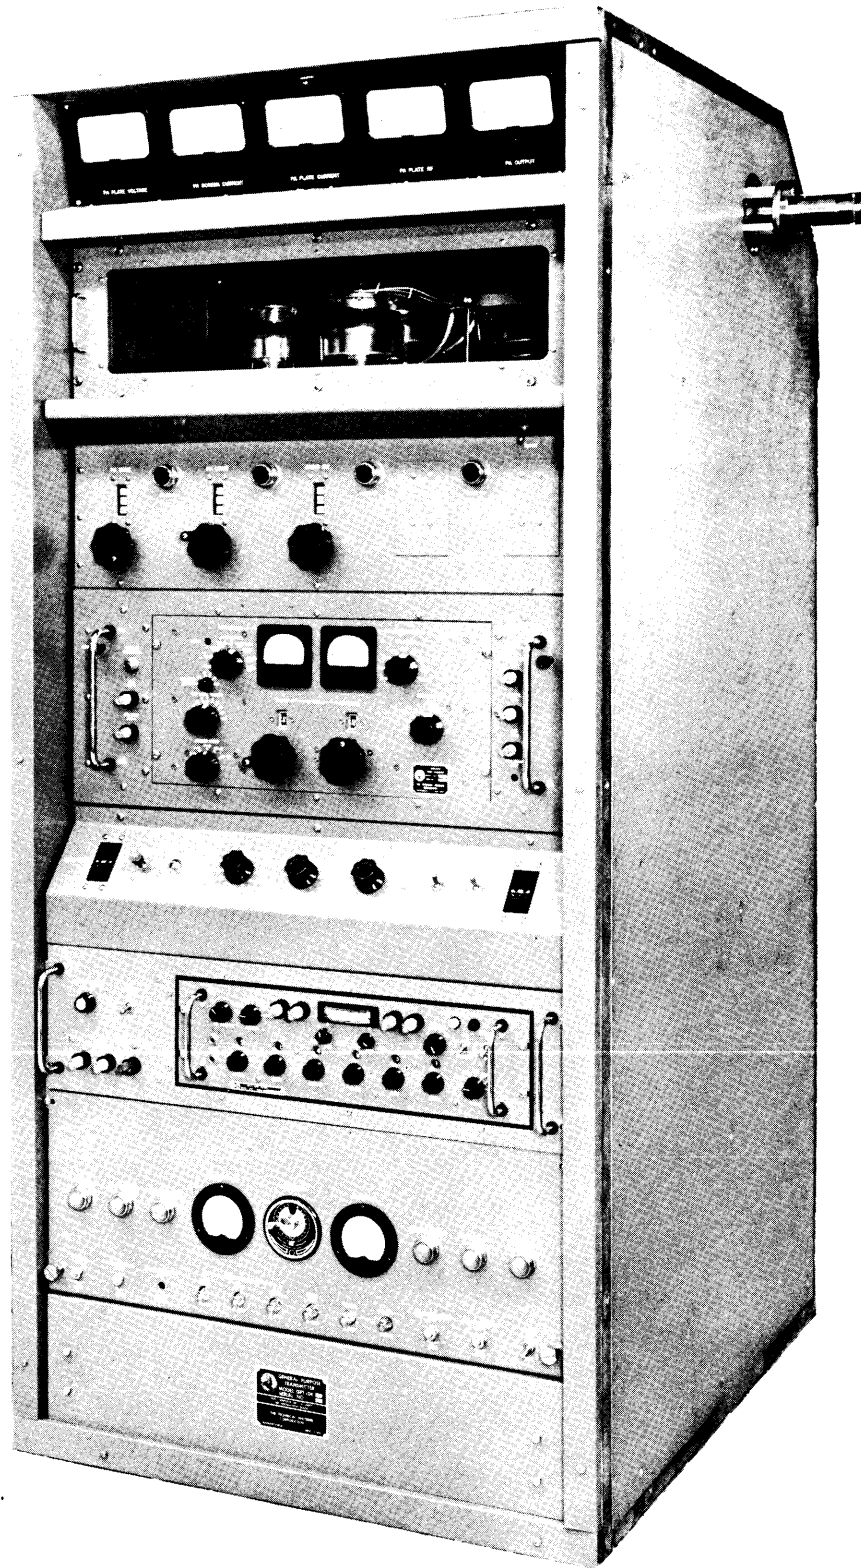

Figure 1-1. GPT-10KRL Transmitter, Overall View
The GPT-10K Transmitter (figure 1-1) is a conservatively-rated general purpose transmitter which delivers 10,000 watts peak envelope power (PEP), or 5,000 watts average power throughout the 2- to 30-mc range. The transmitter provides many types of operating modes, as follows:
a. GENERAL. - As shown in figure 1-1, the transmitter consists of a single frame housing all the components of the transmitter. Primary power connections are made through the base assembly. For unbalanced antenna operation, a connector is mounted in the opening located on the right side of the transmitter. The transmitter frame houses an exciter drawer, a two-stage rf voltage amplifier, a 1-kw Intermediate Power Amplifier, a 10-kw Power Amplifier, and associated power supply and power control circuits. The rf components are distributed through the upper portion of the frame; heavy power supply components are bolted to the base channels of the frame.
(1) The Exciter Drawer houses the exciter unit and also contains overload and control circuitry for the associated transmitter.
(2) Main Meter Panel AM-122. - The main meter panel, factory mounted at the top of the main frame, contains five meters. These monitor the PA PLATE voltage, PA SCREEN grid voltage, PA PLATE current, RF PLATE voltage, and PA OUTPUT. The PA OUTPUT meter is calibrated in kilowatts (PEP) and contains a second scale for measuring SWR.
(3) Power Amplifier Section AX-694. - The power amplifier section is factory mounted below the main meter panel. It contains the PA tube and its associated circuits. A blower motor, which provides forced-air cooling of the 10-kw power amplifier tube, is mounted directly under the power amplifier tube. The front panel of the power amplifier contains the power amplifier tuning and loading controls and their associated counter-type dials, and indicator lamps.
(4) RF Amplifier RFC-1C and Power Supply AX-104. - The rf amplifier and power supply (consisting of two sections) is slide-mounted below the 10-kw power amplifier and serves as the intermediate (1-kw) power amplifier between the exciter and the power amplifier. The inner section of the unit contains all r-f amplifier